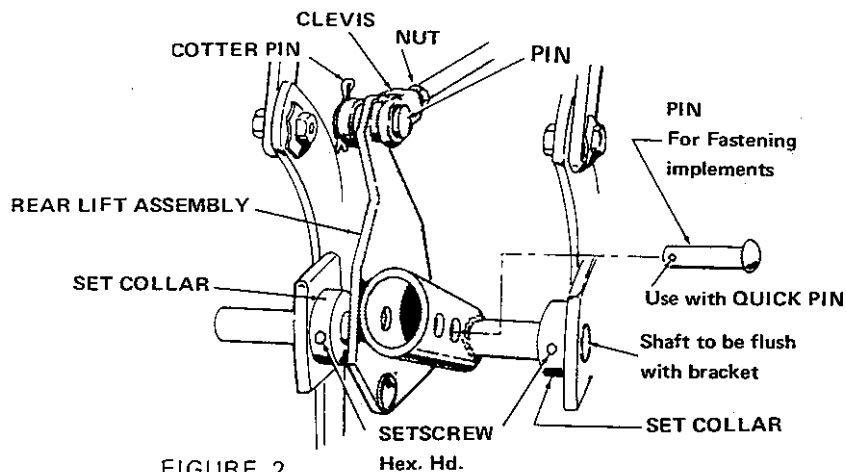

FIGURE 2
10. Attach the clevis on the end of the Lift Rod to the Lift Assembly using a short, flat head clevis pin and a cotter pin (Figure 2.)